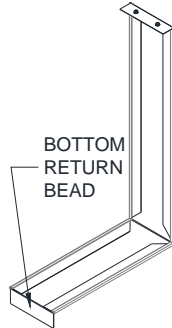

Figure 10.3 - Hood Splice
- Square hood sections do **not** overlap at the hood support. They butt against each other and a hood splice cover is provided to cover the joint, see **Figure 10.3**.